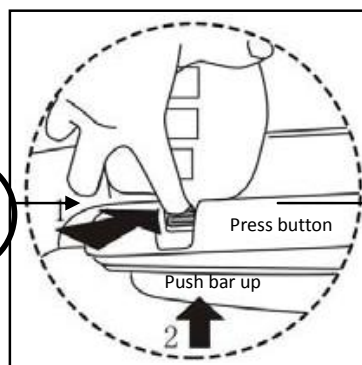

Figure 17
- ✦ To retract the rocking bar press the buttons on each leg's base and push the rocking bar up, as per **Figure 17**.